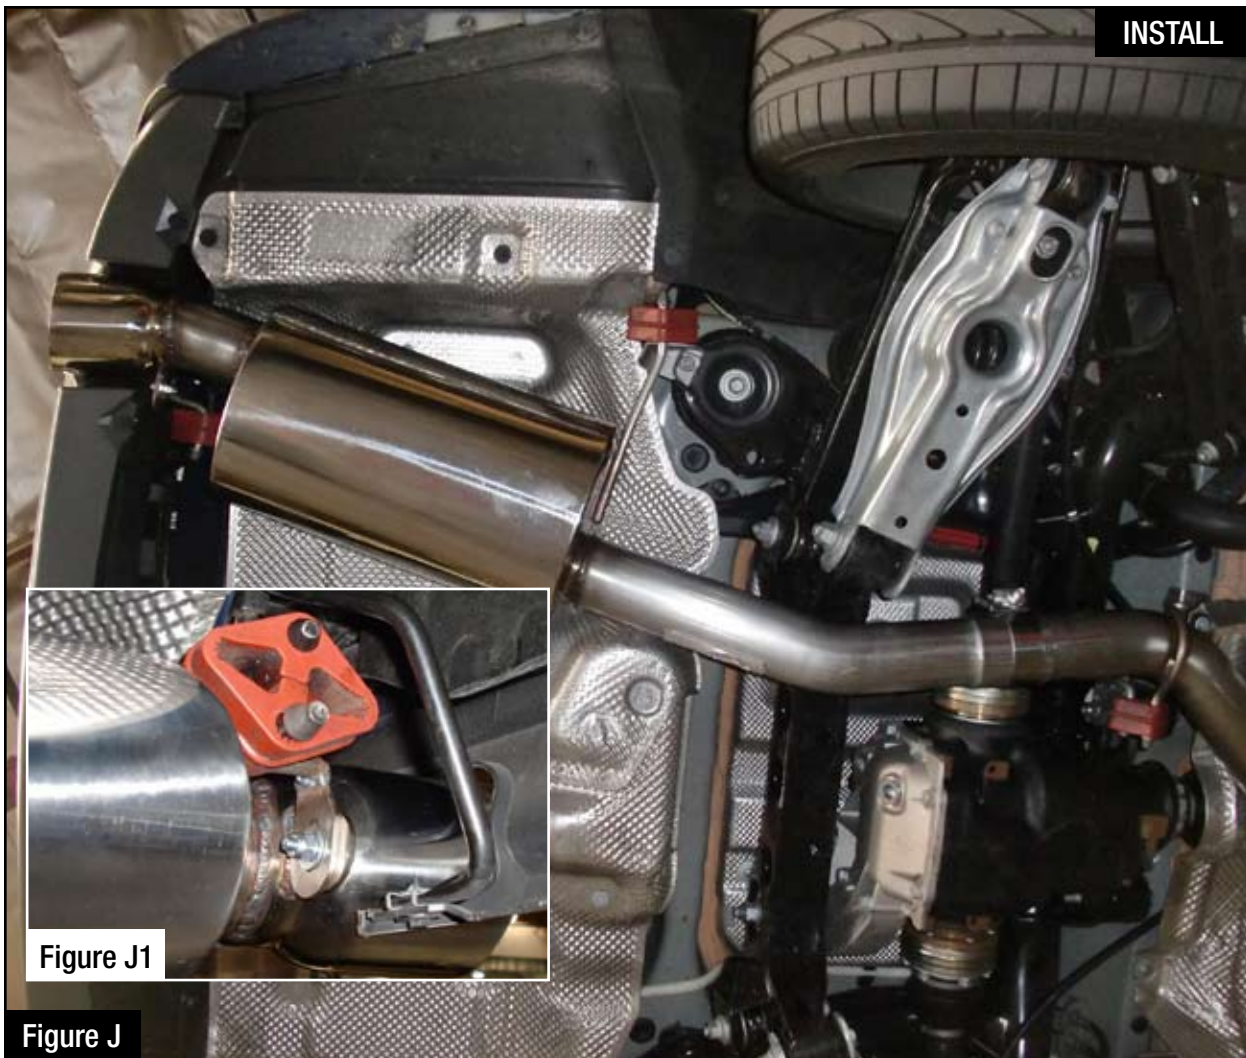

Figure J1
12. Install Muffler/Tailpipe assembly using a band clamp and connect its front and rear isolation mounts. The rearmost mount is a 2-piece adjustable bracket (see fig J1) that will use Hanger #EV. (Do not tighten at this time.)